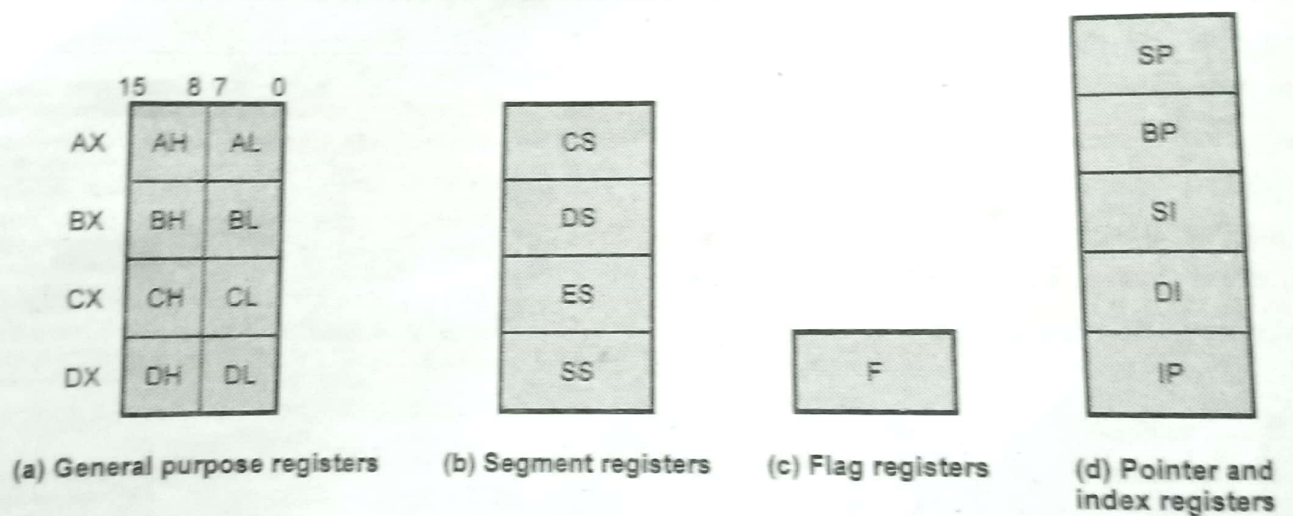

Fig. 1.4.1 Register organization of 8086
- The Fig. 1.4.1 shows the register organization of 8086. It is also known as **programmer's model** of 8086.
- As shown in the Fig. 1.4.1, all the registers of 8086 are 16-bit registers.